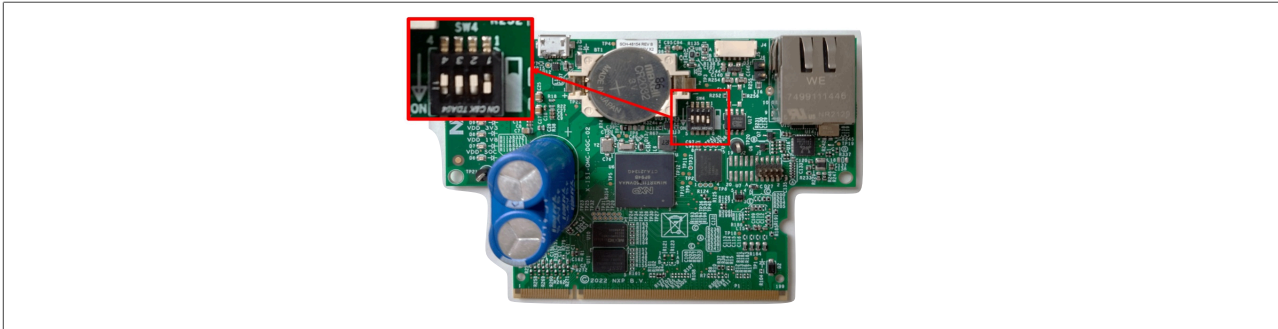

Figure 2. Daughter card DIP switch configurations
2. Check that the DIP switch configuration of the daughter card is the one shown in Figure 2 (SW4.1: ON; SW4.2: OFF; SW4.3: OFF; SW4.4: OFF – Serial Downloader Mode (SDP)):